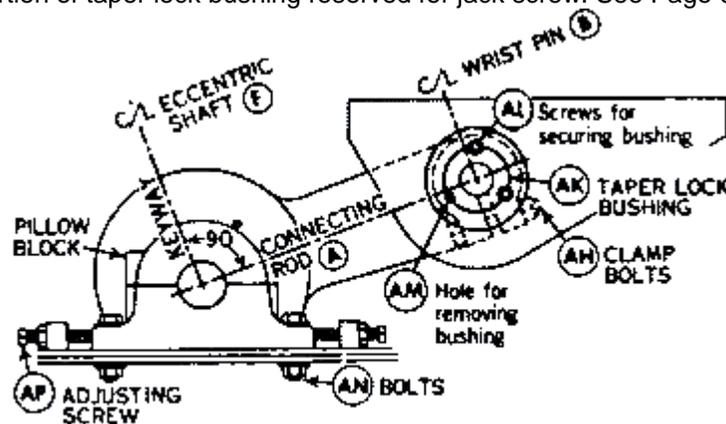

Fig. 7 - ALIGNMENT OF ECCENTRIC DRIVE
9. Before starting conveyor, loosen bearing mounting bolts AN, Figure 7 and follow instructions on Page 5 under Installing eccentric drive, items 5 to 17.
7. Remove pillow block mounting bolts AN, and loosen pillow block adjusting screws AP. Figure 7, Page 5.
5. Rotate eccentric shaft F to center stroke position (keyway 90° to connecting rod) and allow pillow blocks to shift into position shown in Figure 7, (trough must be empty). Recommended special settings are shown on general arrangement drawing furnished when conveyor was purchased.